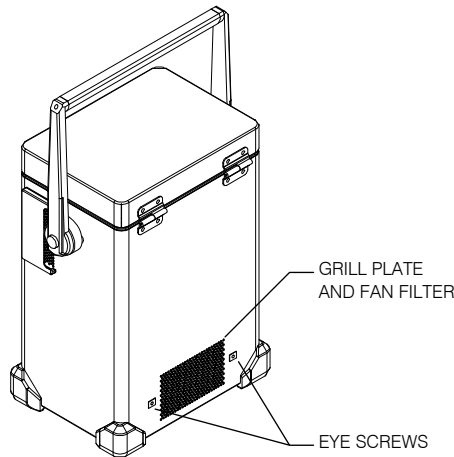

Figure 8-1 Fan filter location
The MS5800 is equipped with an air inlet located on the lower part of the case (see Figure 8-1) and two air outlets located on both sides of the assembly (see Figure 2-2 on page 24). A grill plate protects the vent inlet, while two partial covers protect the vent outlet. A filter, located under the grill plate outside the case, filters the air drawn in by the internal fan. To allow a good airflow, this filter must be cleaned or changed periodically, according to your MS5800 utilization and the quality of ambient air. If you have to clean or change the filter, use the procedures that follow.
2. Unscrew the two eye screws that hold the grill plate to the case (see Figure 8-1).